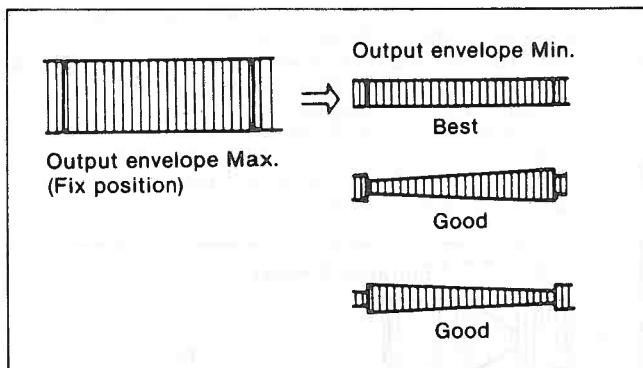

Figure M24
8. Turn the Tracking VR fully clockwise and counter clockwise. The output envelope should vary nearly parallel with other condition as shown in Figure M24.